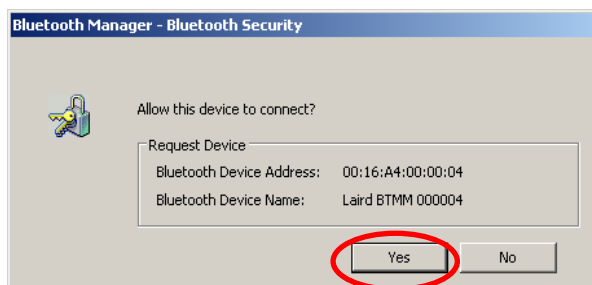

Figure 2-10: A2DP example 1 – Confirm pairing (here: Secure Simple Pairing, no PIN required)
5. Click “Yes” on “Allow this Device to connect?” - Figure 2-10 .